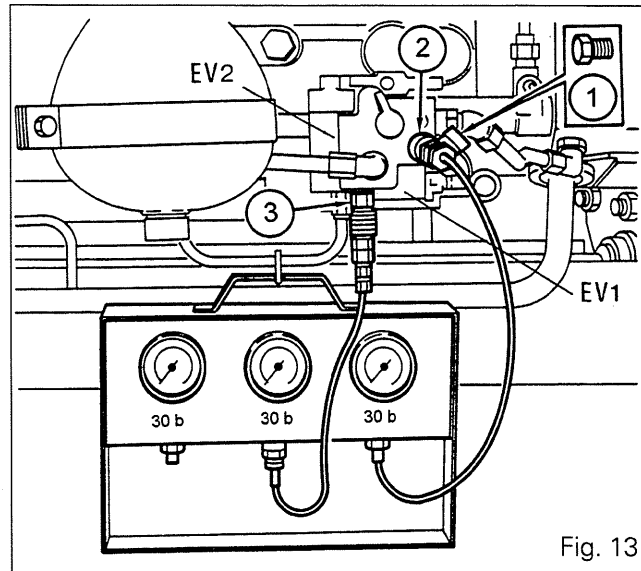

Fig. 13
- Screw on two male connectors **(2)** and **(3)**, ref. 3384387M1, and connect them to diagnostic connectors fitted on pressure gauges with a capacity of approximately 30 bars (Fig. 13).